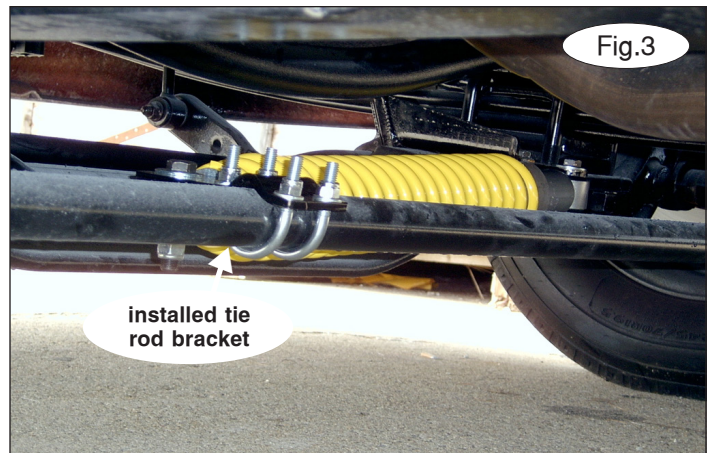

Fig.3
3. Install the Reflex tie rod bracket to the underside of the tie rod with the 1/2" bolt hole facing toward the front axle. Place the two supplied 3/8" U-bolts over the top of the tie rod, and insert them through the corresponding tie rod bracket holes. Place the four provided 3/8" lock nuts and 10mm flat washers over each U-bolt (Figure 3). Finger-tighten them only at this time so the bracket may be positioned along the tie rod later in the installation process.